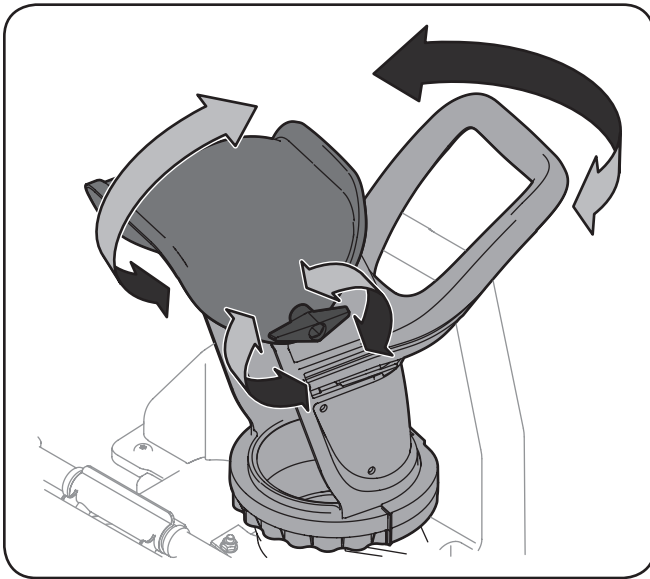

Figure 3-10
2. Tighten the wing knob on the upper chute making sure the carriage bolt on the inside of the discharge chute is correctly positioned. Refer to Figure 3-10.
3. To adjust the direction that the snow will be thrown, use the handle on the upper discharge chute to control the direction of the discharged snow. Refer back to Figure 3-10.